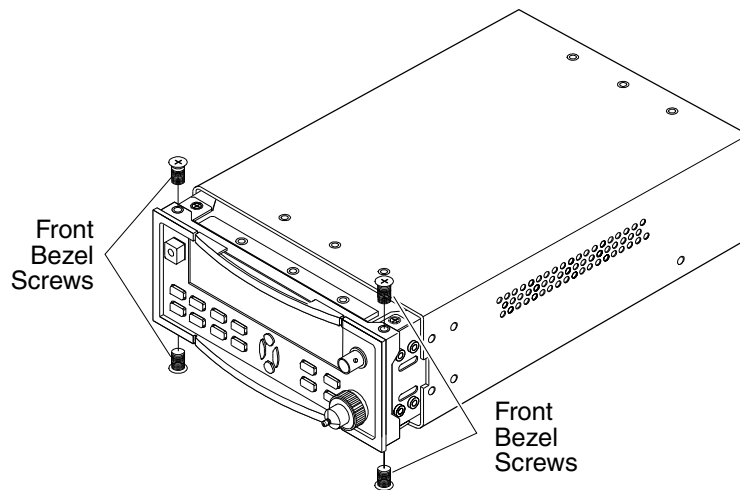

Figure 3-10 Front Bezel Screws
- 2 Remove the four 4-40 x 3/16-inch self-locking flathead machine screws that attach the front bezel to the front panel (two on top and two on the bottom as shown in Figure 3-10).